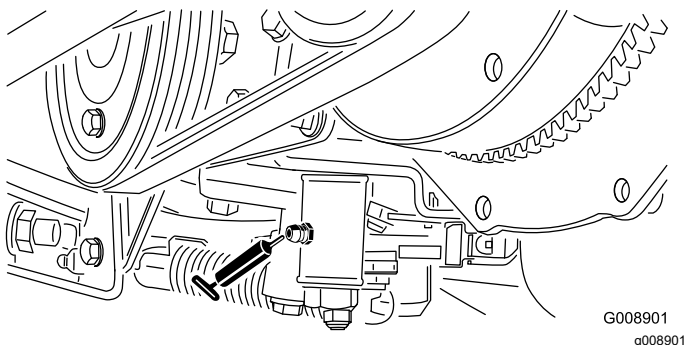

Figure 63
2. Jack the back of the machine under the rear wheel motor. (Figure 63).
- Neutral adjust mechanism (Figure 63)